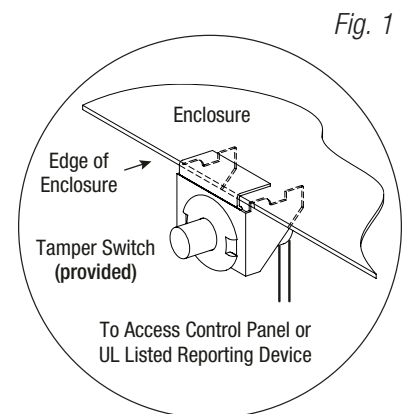

Fig. 1
3. Mount included UL Listed tamper switch(es) (Altronix Model TS112 or equivalent) in desired location, opposite hinge. Slide the tamper switch bracket onto the edge of the enclosure approximately 2" from the right side (*Fig. 1, pg. 2*). Connect tamper switch wiring to the Access Control Panel input or the appropriate UL Listed reporting device. To activate alarm signal open the door of the enclosure.